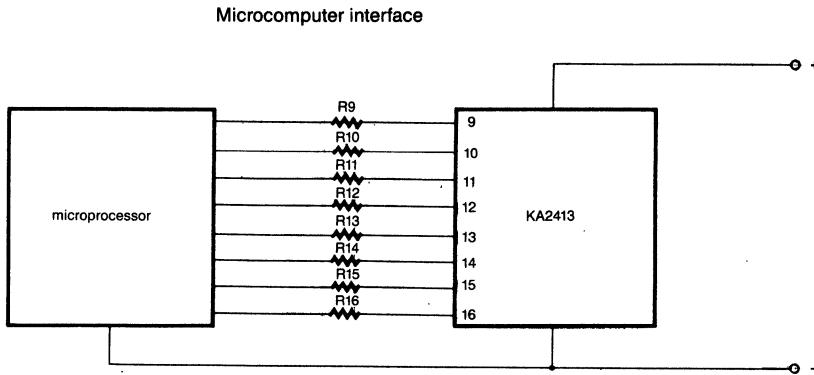

Fig. 5
- KA2413 can also be controlled by a microprocessor (see Fig 5). The negative branch of the microprocessor voltage supply is connected to pin 7 of KA2413 and the inputs (8) are connected with resistors.